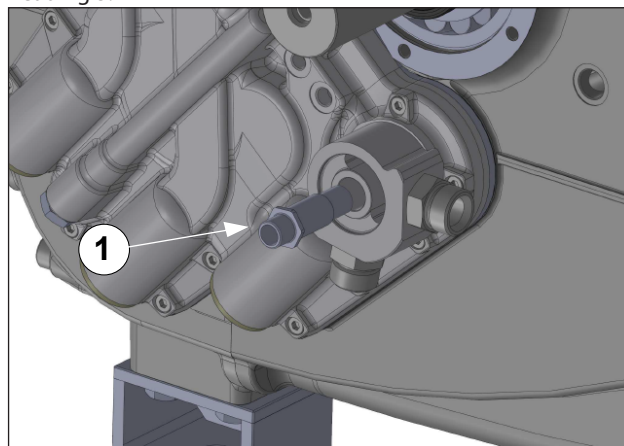

Fig. 130
Screw the two connection bends to the exchanger tubes (pos. ①, Fig. 130) and tighten them with a torque wrench as described in heading 3.